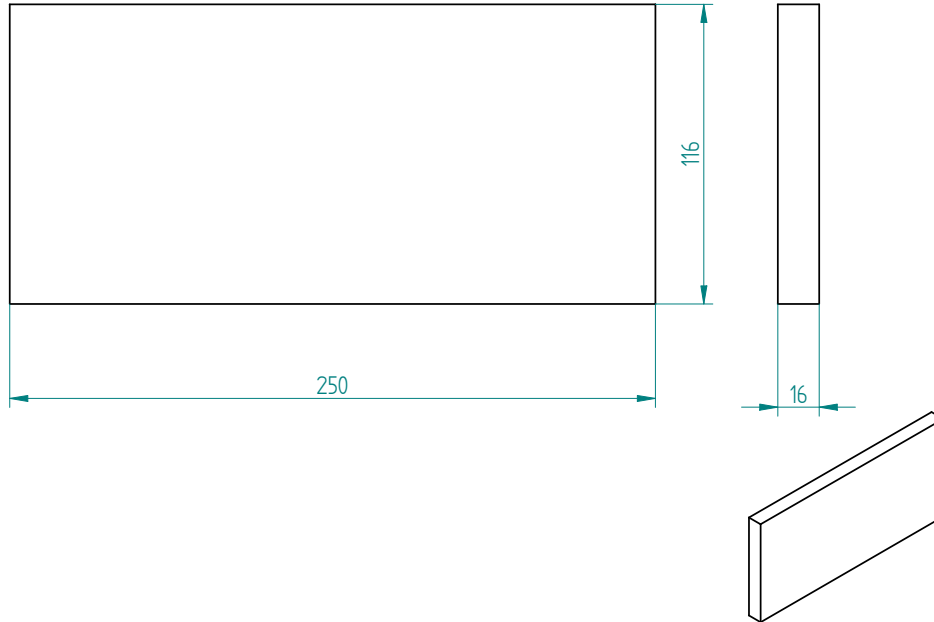

Figure A.6: Shaped part : **face-2-outsourcing** for **perpendicularator** tool
1. order the part in a joinery see figure A.6, page 126 for dimensions ;